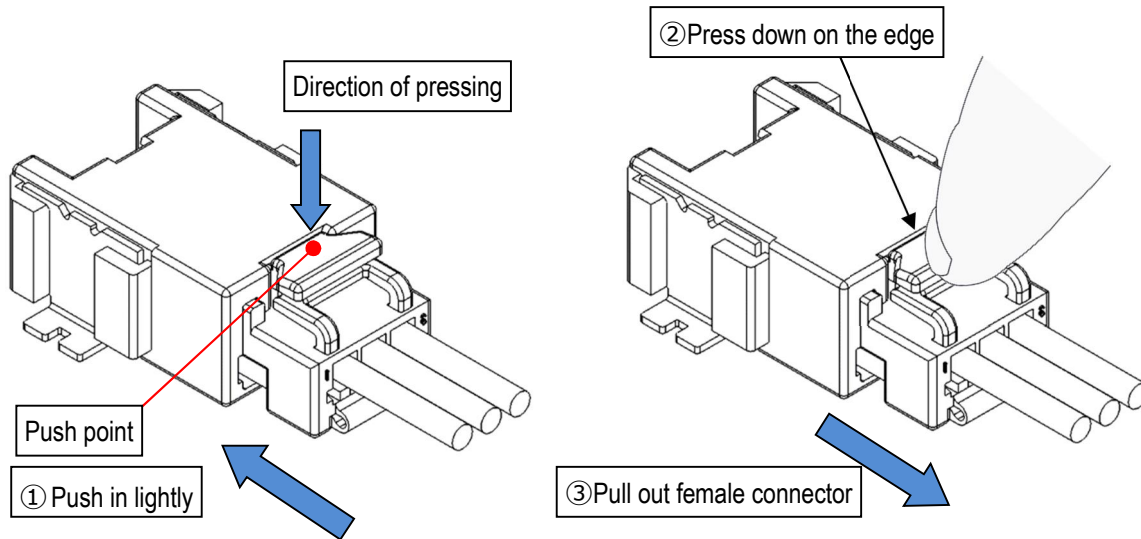

Fig50. Lock arm
- ① Hold the female connector and push it in lightly.
- ② While holding the female connector in, press down fully on the end of the arm (see Fig. 50).
- ③ Keep pressing the lock down, and pull out the female connector.